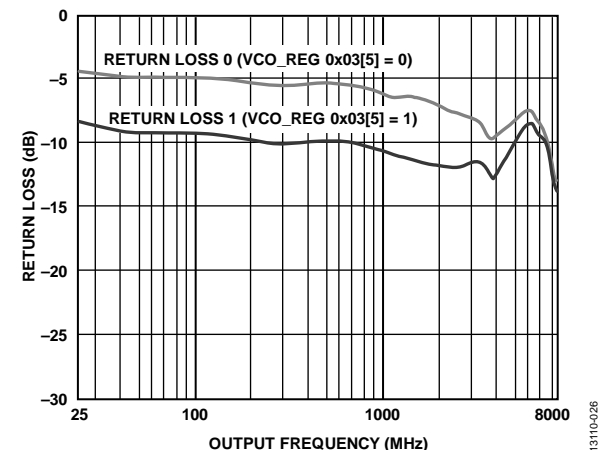

Figure 26. RF Output Return Loss
- Output return loss setting (VCO_REG 0x03[5]). See Figure 26 for more information.